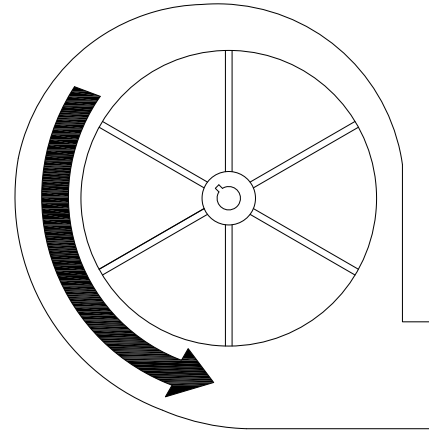

Fig. 6
4. Confirm that the blower impeller wheel is rotating in the correct direction when energized (Fig. 6).